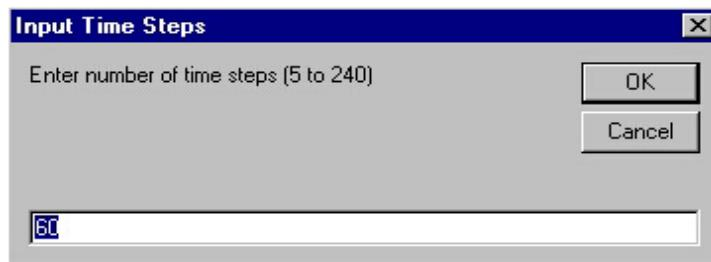

Figure 3.26. Input Time Steps
3. Clicking Yes will bring up the Input Time Steps window (Figure 3.26) which allows the user to determine the number of time steps. Clicking No will load the Load file menu (Figure 3.4) described earlier.